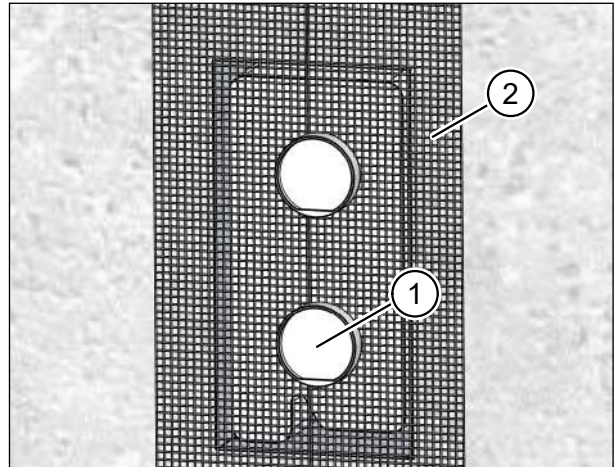
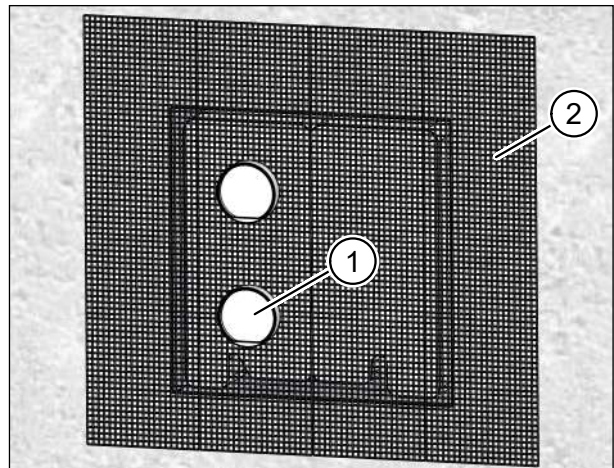

Fig. 31: Plastering the installation kit **without** filler piece
Fig. 32: Plastering the installation kit **with** filler piece
- ▶ Insert the protective sleeves (item 1 in Fig. 31 and Fig. 32). They should extend beyond the solid wall so that they will end flush with the subsequent plaster coat. The protective sleeves provide the bonding surface for the external plaster.
- ▶ Apply the plaster scrim (item 2 in Fig. 31 and Fig. 32) to the outside of the wall box, to the masonry and to the facade insulation.